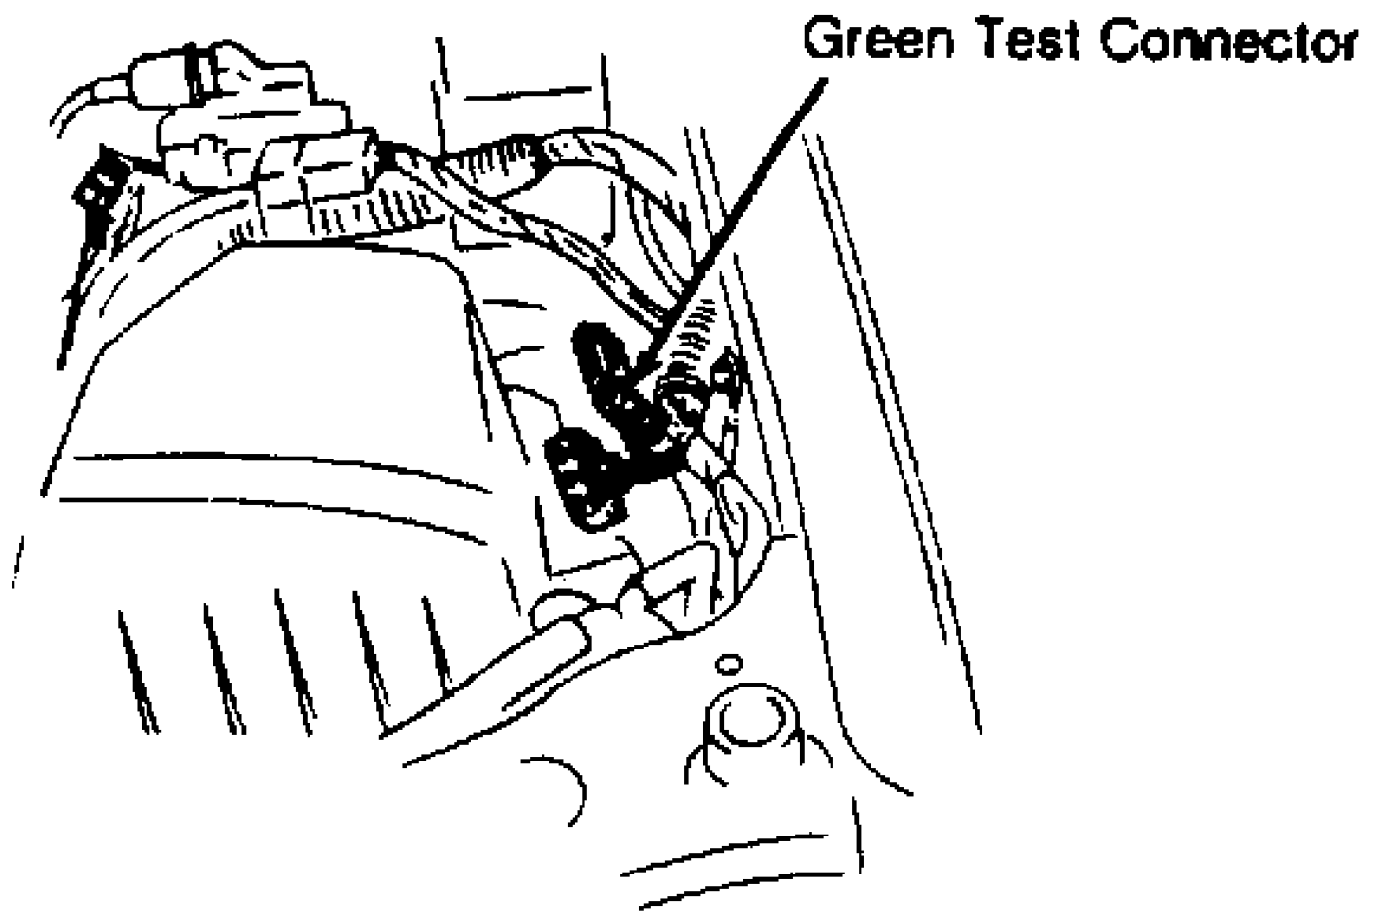

Fig. 1: RX7 Locating Green Test Connector
1) Connect a jumper wire between ground and Green test connector near battery. See Fig. 1. Connect timing light to leading spark plug wire (bottom wire) of front rotor housing.